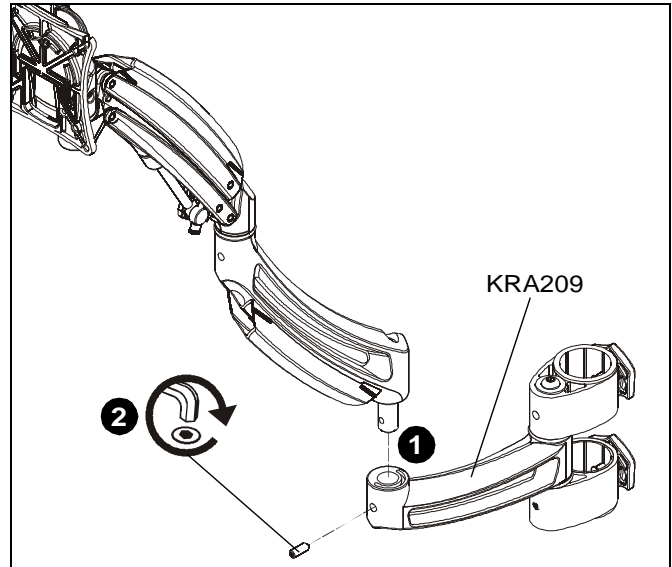

Figure 3
1. Install K1 Series mount into opening at end of KRA209/210 extension arm. (See Figure 3)
2. Use removed set screw to secure K1 Series mount to KRA209/210 extension arm. (See Figure 3)